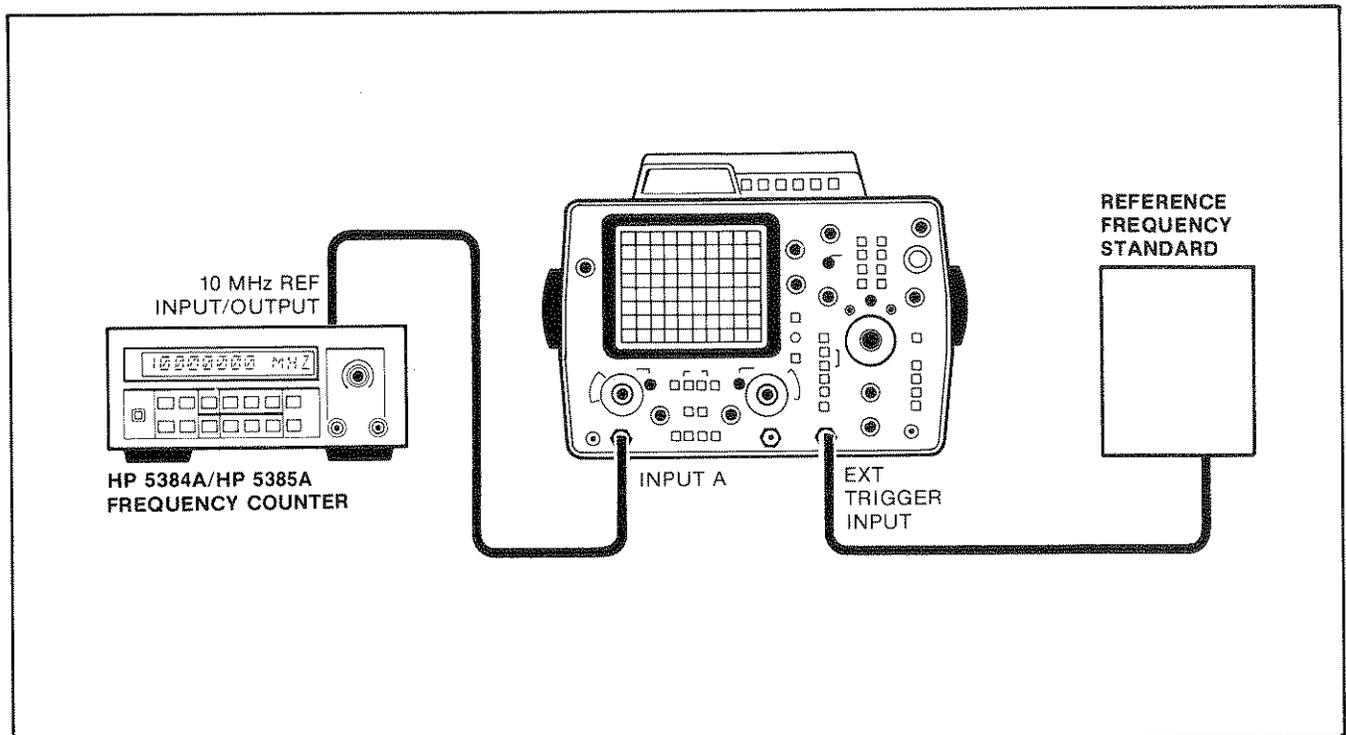

Figure 5-6. Standard, TCXO and Oven Oscillator Test Setup
a. Connect a house standard (reference frequency) to the EXT TRIGGER input of an HP 1740A Oscilloscope as shown in Figure 5-6. Set the HP 1740A oscilloscope to EXT (trigger).
b. Connect the HP 5384A/HP 5385A rear panel 10 MHz REFERENCE IN OUT to the channel A input of the HP 1740A oscilloscope as shown in Figure 5-6.
b. Connect a house standard (reference frequency) to Channel A of the HP 5384A/HP 5385A as shown in Figure 5-6.
c. Connect a house standard (reference frequency) to the EXT TRIGGER input of an HP 1740A oscilloscope as shown in Figure 5-6. Set the 1740A Oscilloscope to External Trigger.
d. Connect the HP 5384A/HP 5385A rear panel 10 MHz REFERENCE IN OUT to the Channel A input of the HP 1740A oscilloscope as shown in Figure 5-6.